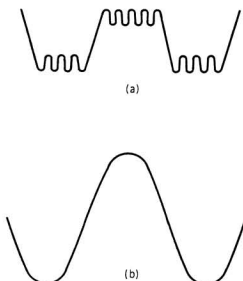

Figure 12. Output Form
2. When the reproduced wave forms have the shape shown in Figure 12 (a) irrespective of the position of the variable resistor, it shows that the FET is not controlled properly and something is wrong in the R001, X207, D201, D202, VR205 or X209 circuit..